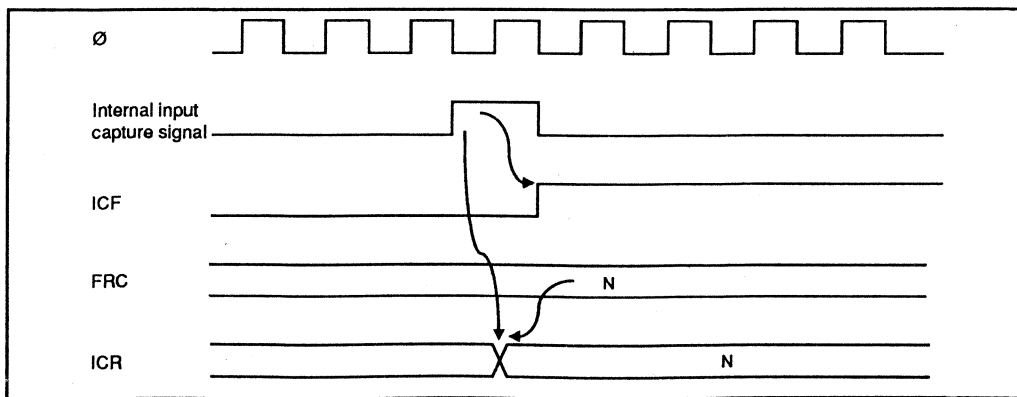

Figure 6-16. Setting of Input Capture Flag
(2) Timing of Input Capture Flag (ICF) Setting: The input capture flag ICF_x (x = A, B, C, D) is set to "1" by the internal input capture signal. Figure 6-16 shows the timing of this operation.